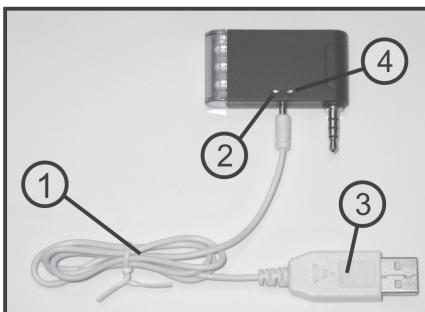

Figure 2
The blue LED (see figure 2, item 4) serves as a function display in flight operation. If the blue LED starts to flash, cease flying immediately and charge the battery in the IR adapter.